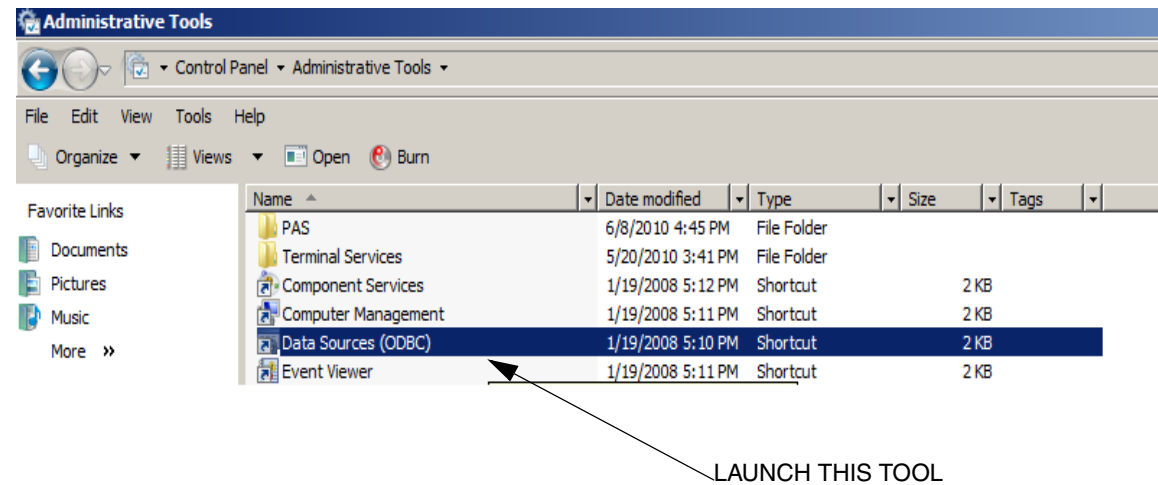

Figure 389. Launching ODBC Data Source Administrator
1. Open the Administrative Tools on the Windows Control Panel, then launch the ODBC Data Source Administrator, Figure 389.